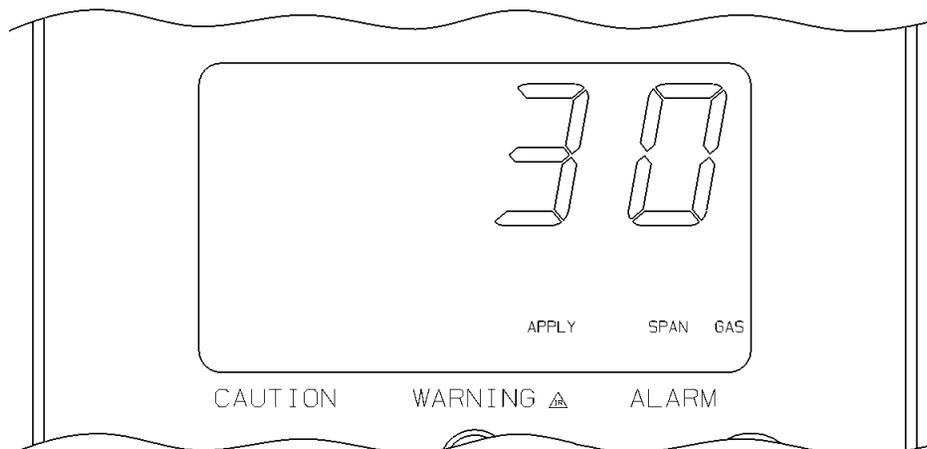

Fig. 27 Apply Zero Gas Flag
- Apply zero gas (Fig. 27 "Apply Zero Gas Flag")